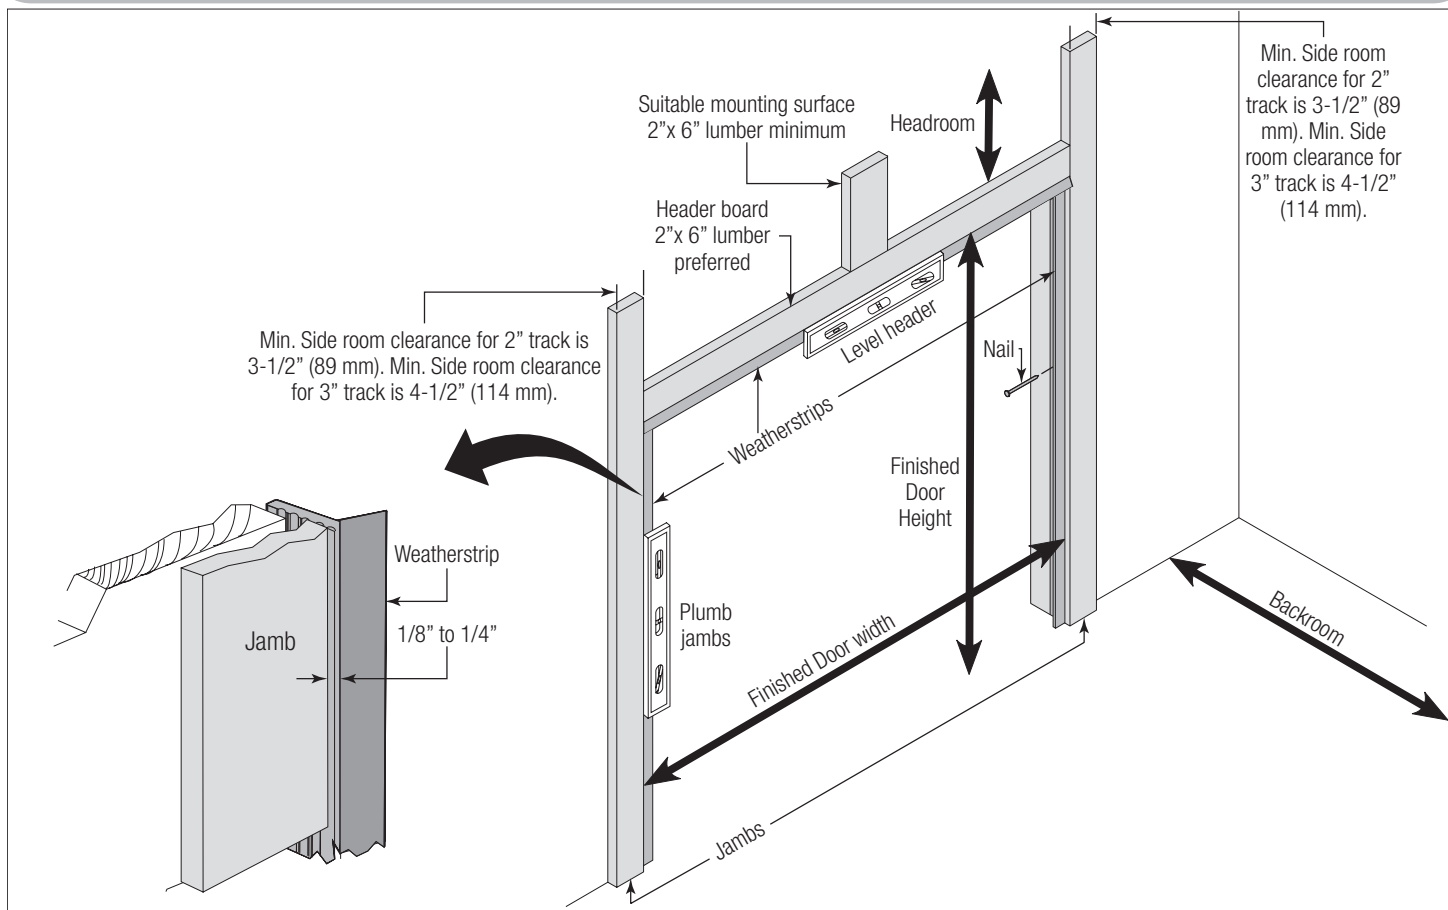

Figure 1
**See Figure 1 for the following steps.**